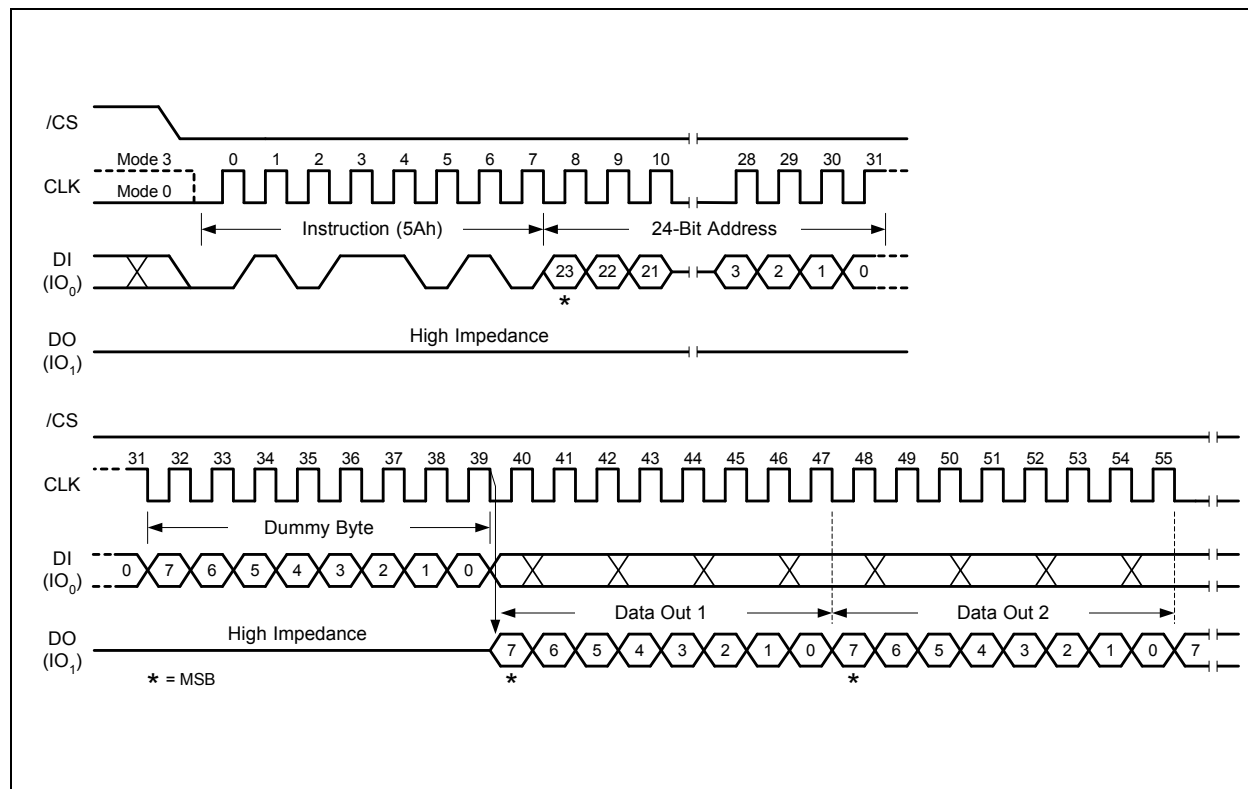

Figure 34. Read SFDP Register Instruction Sequence Diagram
The Read SFDP instruction is initiated by driving the /CS pin low and shifting the instruction code “5Ah” followed by a 24-bit address (A23-A0)(1) into the DI pin. Eight “dummy” clocks are also required before the SFDP register contents are shifted out on the falling edge of the 40th CLK with most significant bit (MSB) first as shown in Figure 34. For SFDP register values and descriptions, refer to the following SFDP Definition table.